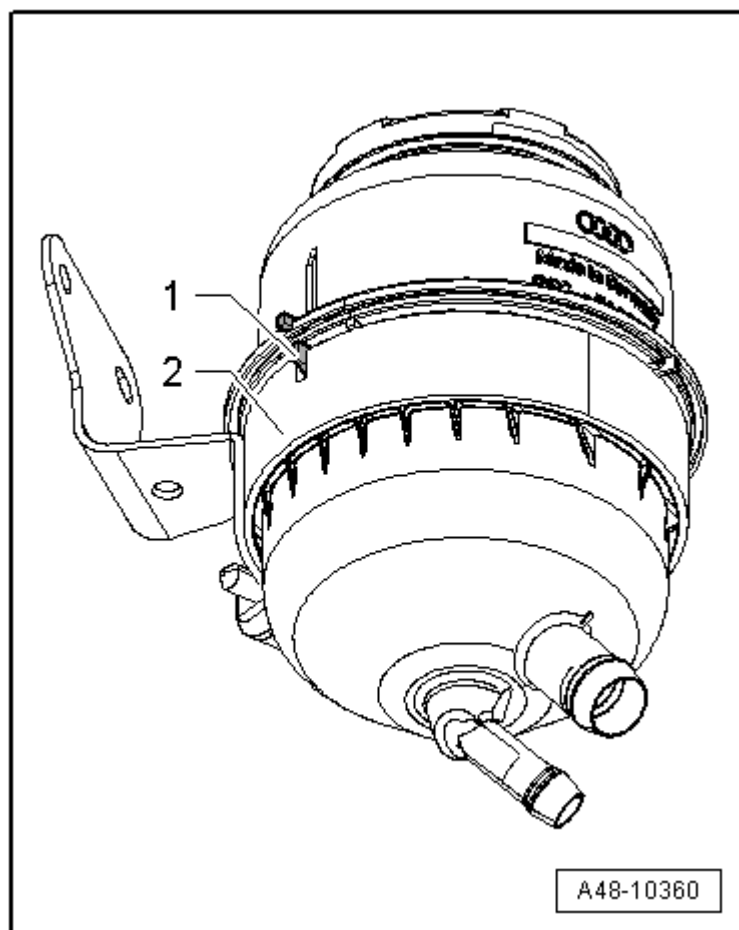

Fig. 32: Reservoir In Bracket
2. Reservoir in bracket, refer to **Fig. 32**